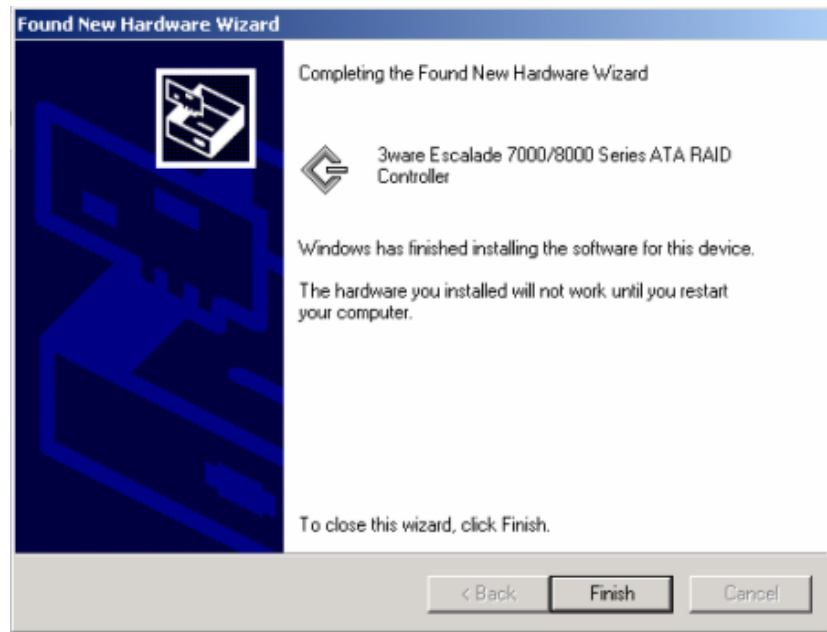

Figure 33. Final driver installation screen
- 6 The final upgrade driver screen should appear (Figure 33), followed by a progress bar which appears briefly, then by a **System Settings Change** dialog.